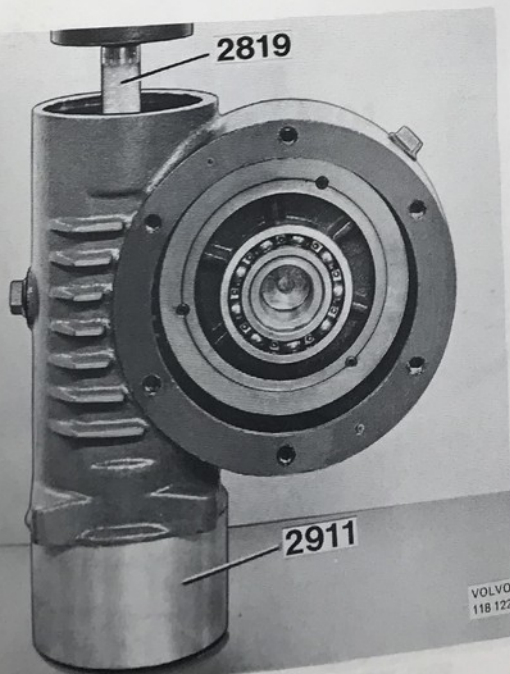

Fig. 92-59. Pressing out the worm gear
22. Press the worm gear shaft out of the housing. See Fig. 92-59.